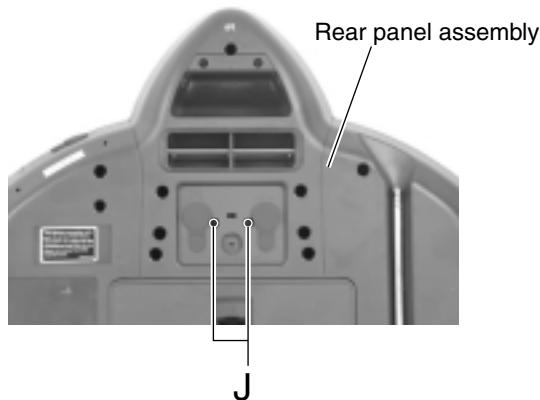

Fig.11
## ■ Removing the main board / sub (1) board / sub (2) board (See Fig.11 to 13)
- Remove the screw **L** and disconnect the sub (1) board from connector CN341 on the main board.
- Disconnect the sub (2) board from connector CN371 on the main board.